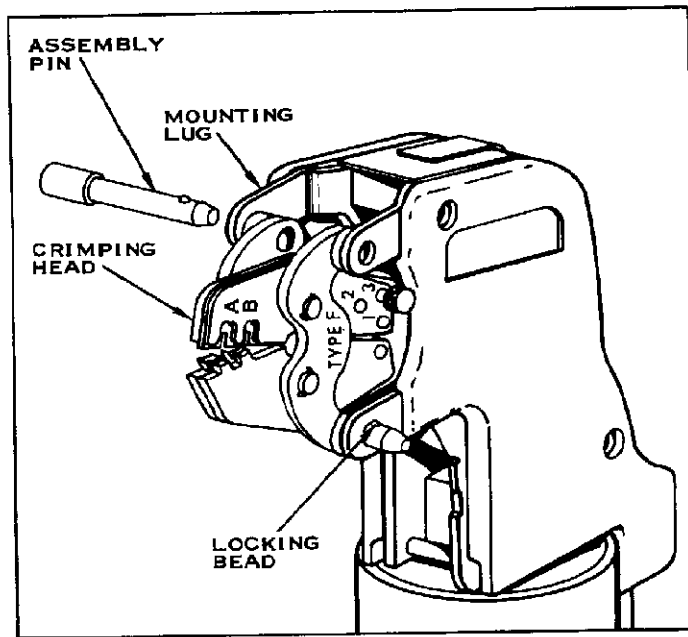

FIGURE 4
5. Align the holes in the Links and Mounting Lugs, and insert the Assembly Pins. The Locking Beads on the Assembly Pins must pass through both Mounting Lugs. Figure 4.
1. Set the Insulation-Crimp Adjustment Pin in the No. 3 (loose) position. Figure 4.